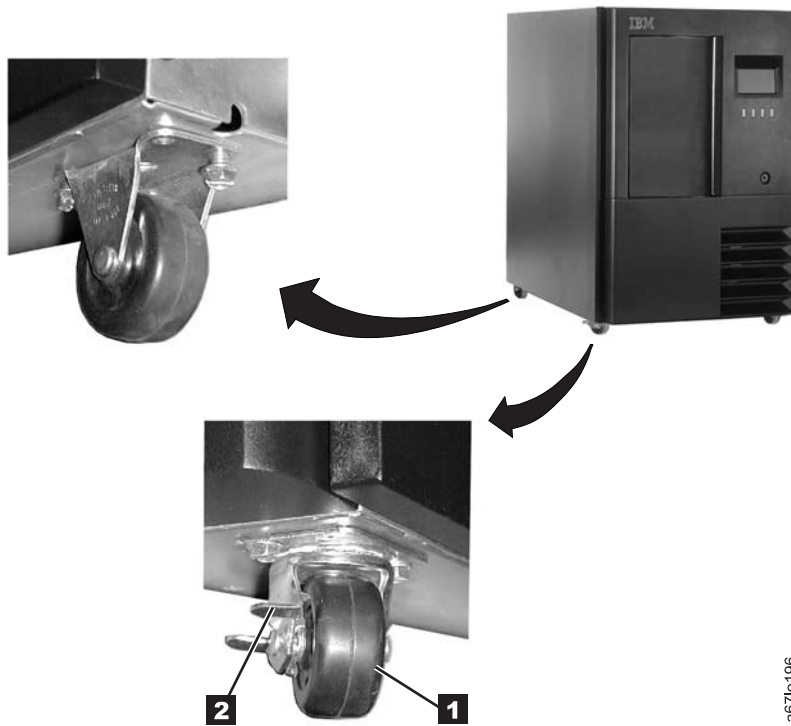

Figure 14-10. Locking front casters
2. Lock the two front casters **1** in place by turning the latch **2** counterclockwise (see Figure 14-10).